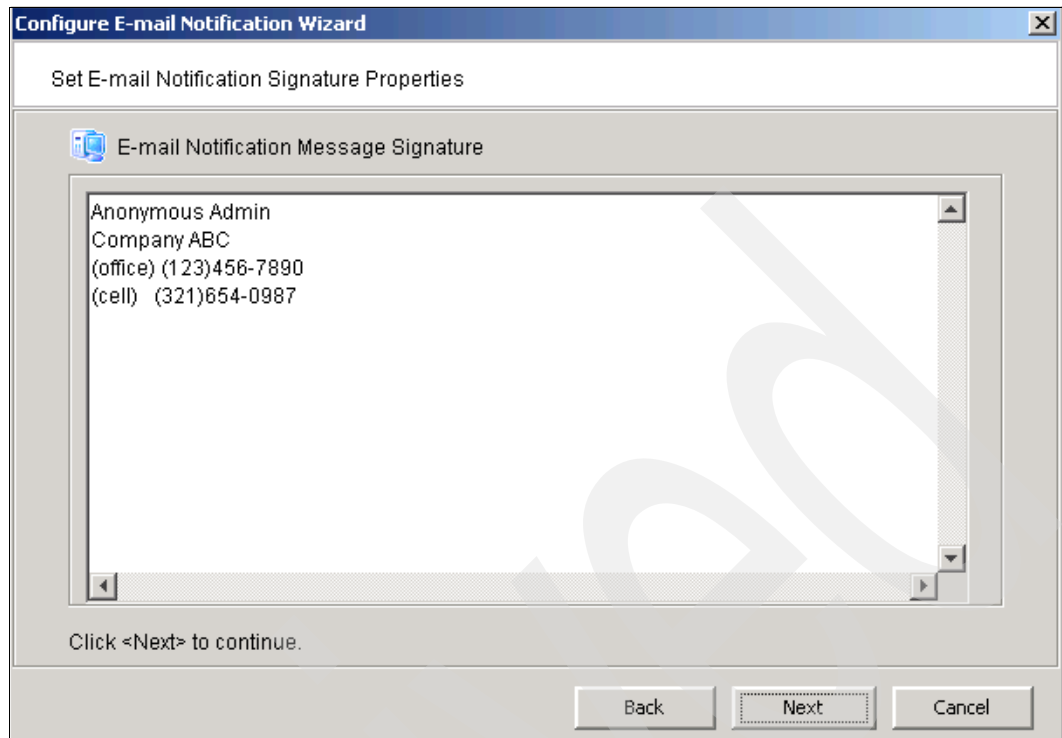

Figure 11-16 Signature setting
4. The next panel (Figure 11-16 on page 371) allows you add critical contact information. This information is included in the e-mail that is sent with the alerts. Click **Next**.